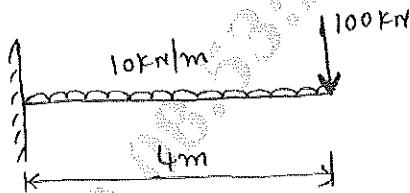

Fig. Q5 (b)
b. For the beam element shown in figure Q5 (b), determine the displacement and slope at the free end. Take $E = 70 \text{ GPa}$, $I = 4 \times 10^{-4} \text{ m}^4$ (08 Marks)